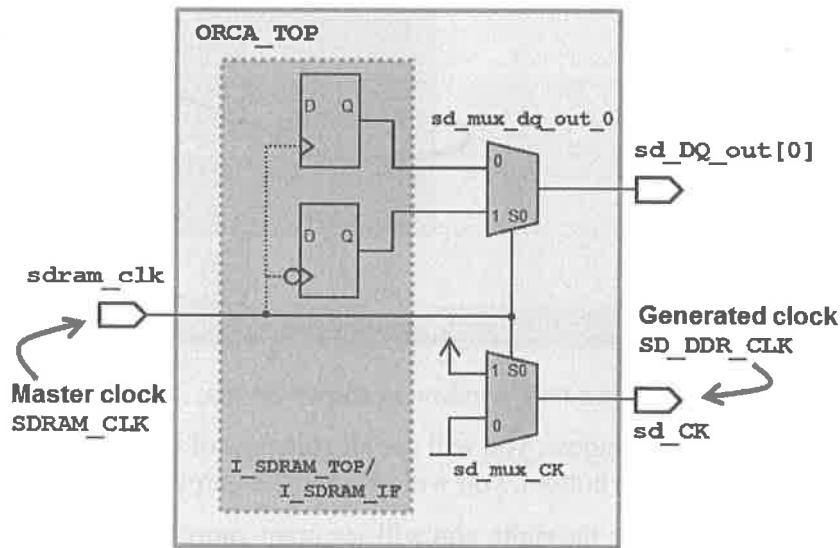

Figure 1. SDRAM interface
Figure 1 shows the SDRAM interface. The clock `SDRAM_CLK` is connected directly to the select pins of muxes, which in turn will drive the output ports of the `ORCA_TOP` block. The *dummy* mux driving `sd_CK` is required because of the tight timing requirement of the DDR SDRAM interface, which produces data at its output data ports on both the rising and the falling clock edges. This design requires that the clock skew from `SDRAM_CLK` to `sd_DQ_out` and `sd_CK` be optimized. By default, select (`S0`) pins are marked as *implicit ignore pins*. To have *CTS* balance the skew you need to redefine these select pins as *sink pins*.
1. In the *view* window that should still be open (see the last step of the previous *Task*), notice that just above and below the `sd_CK` line, the MUX *select* pins described in *Figure 1*, `I_SDRAM_TOP/I_SDRAM_IF/sd_mux_ck*/S0`, are, in fact, also *implicit ignore pins*.